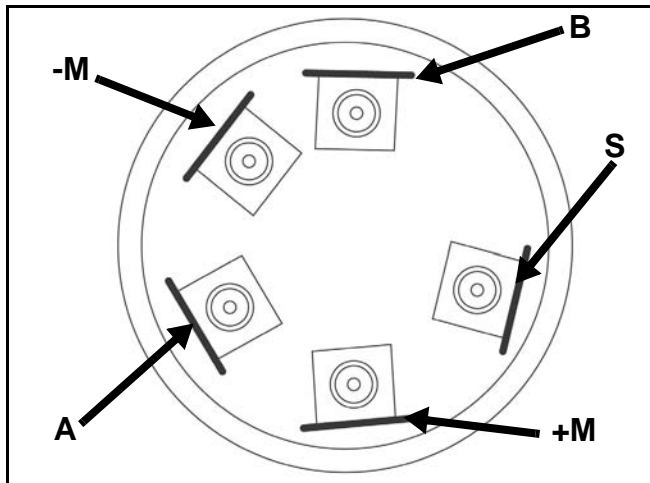

Figure 29
2. Verify that continuity exists between the terminals listed for the switch position. Verify that there is NO continuity between terminals not listed for the switch (Figure 29).